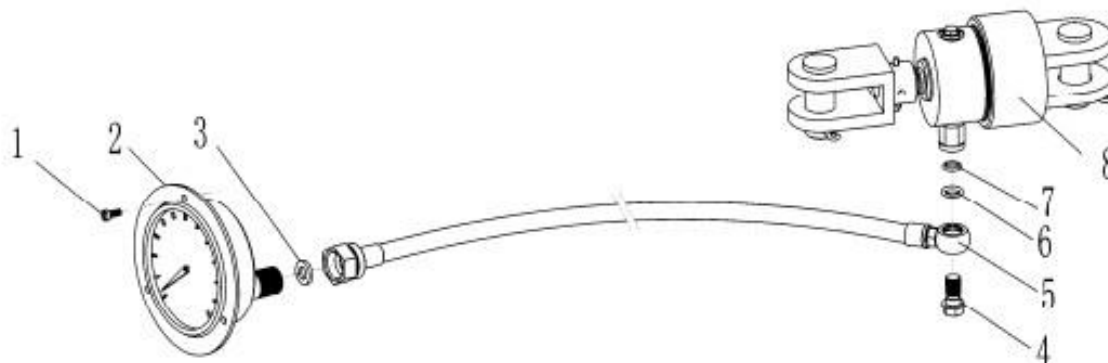

Fig .7-25
25.Torque testing system of master tong (Fig7-25, Table25)